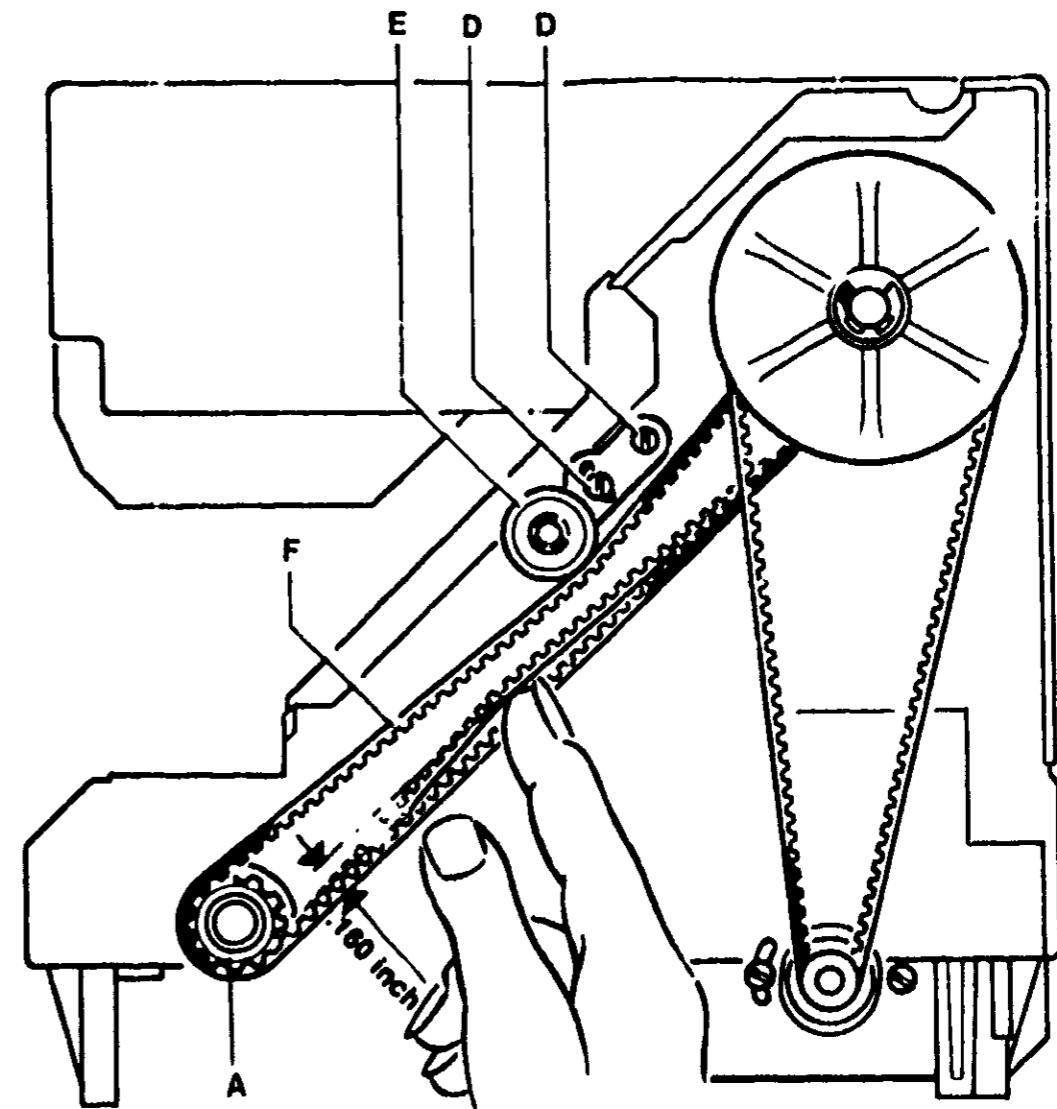

FIGURE 68
Check belt tension. A light finger pressure (Figure 68) should push belt 1/60 inch (4 mm) upward. If necessary, adjust position of tension pulley (E). Tighten screws (D) securely.
Check belt tension. A light finger pressure (Figure 68) should push belt .160 inch (4 mm) upward. If necessary, adjust position of tension pulley (E). Tighten screws (D) securely.